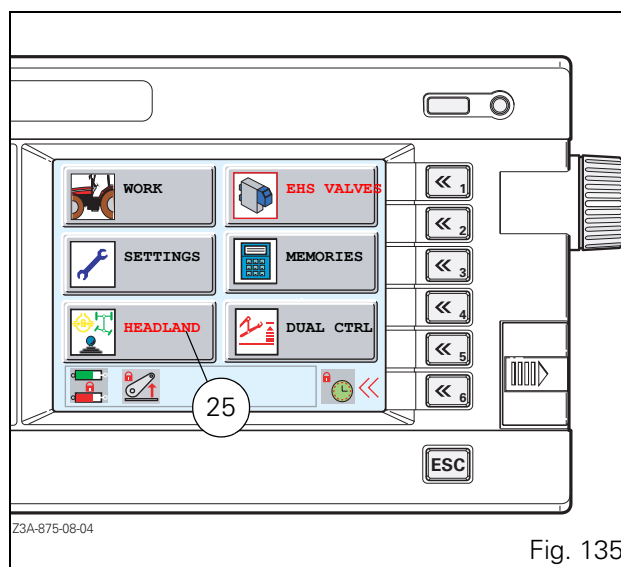

Fig. 135
NOTE: If a sequence reading operation is active when the window (Fig. 135) is open, the word **HEADLAND** flashes red to alert the driver (25).